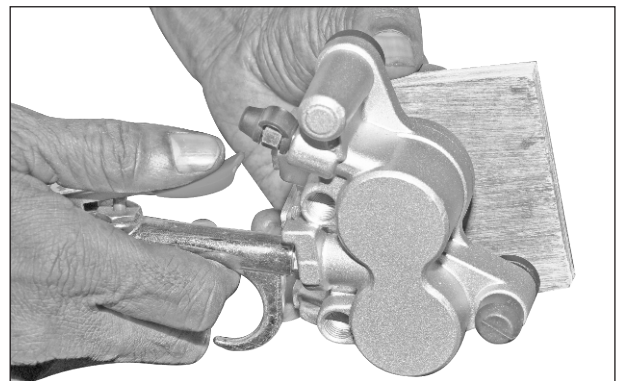

Fig. 6.28
- Insert a spacer in between the piston caliper and the caliper body (at pad position) and then apply compressed air through inlet port of the caliper to slide both the pistons out. (Fig. 6.28)